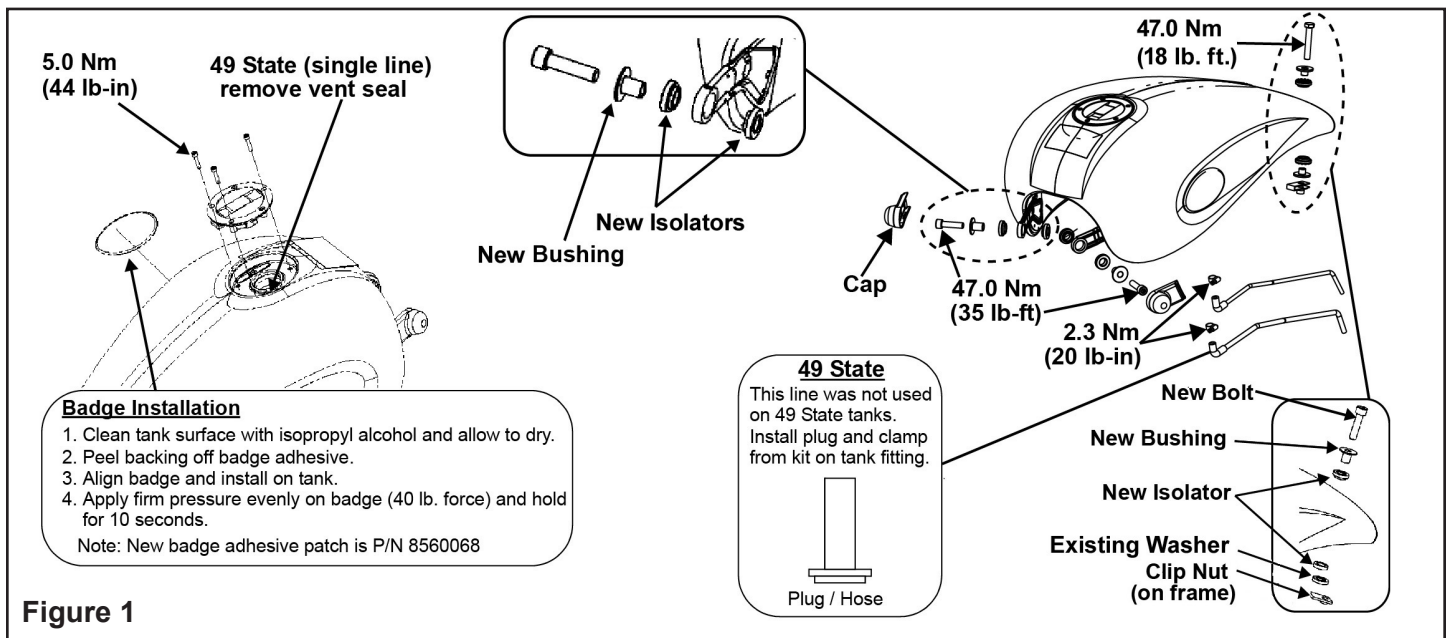

Figure 1
5. Install new front tank mount bushings and new isolators supplied with kit to new tank. Figure 1.
6. Install the new rear tank mount bushing and isolators supplied with kit. Figure 1.